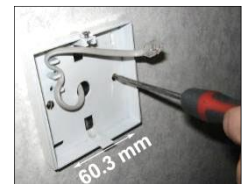

Fig 8
- Step 2** Feed one end of the RJ control cable through the switch box, feed and secure the RJ control cable through the back case and secure back case to switch box using 2 mounting screws (not supplied) (see Fig 8).